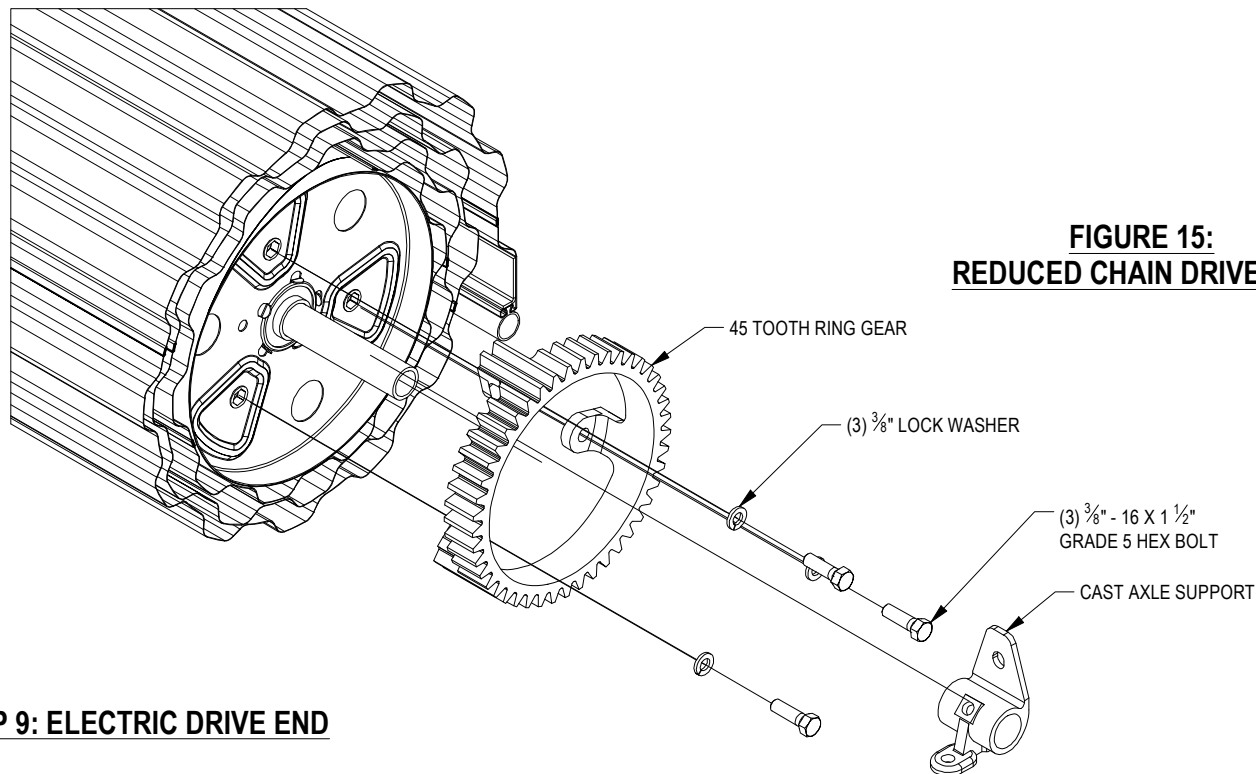

FIGURE 15:
- Fasten 45 Tooth Cast Ring Gear to drum using three (3) each $\frac{3}{8}$ " - 16 x 1 $\frac{1}{2}$ " Grade 5 Hex Bolts and $\frac{3}{8}$ " Lock Washers.
- Slide Cast Axle Support over axle. See Figure 15.